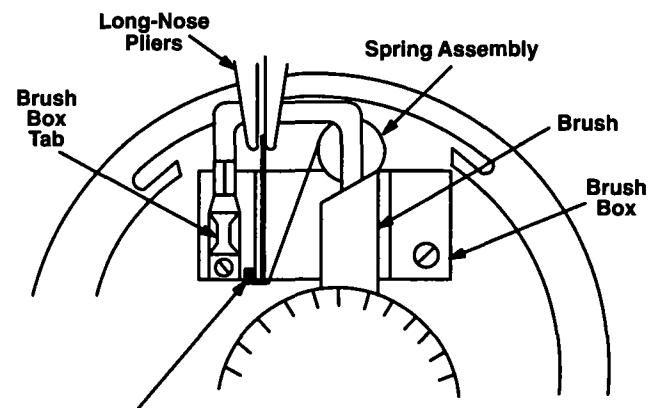

Figure 6-2. View Of Spring Assembly And Brush From Armature End Of Motor
10. Using long-nose pliers, insert spring assembly beside brush sliding the spring retaining bracket along the brush box wall. The spring retaining bracket hooks on the brush box wall as illustrated in Figure 6-2.